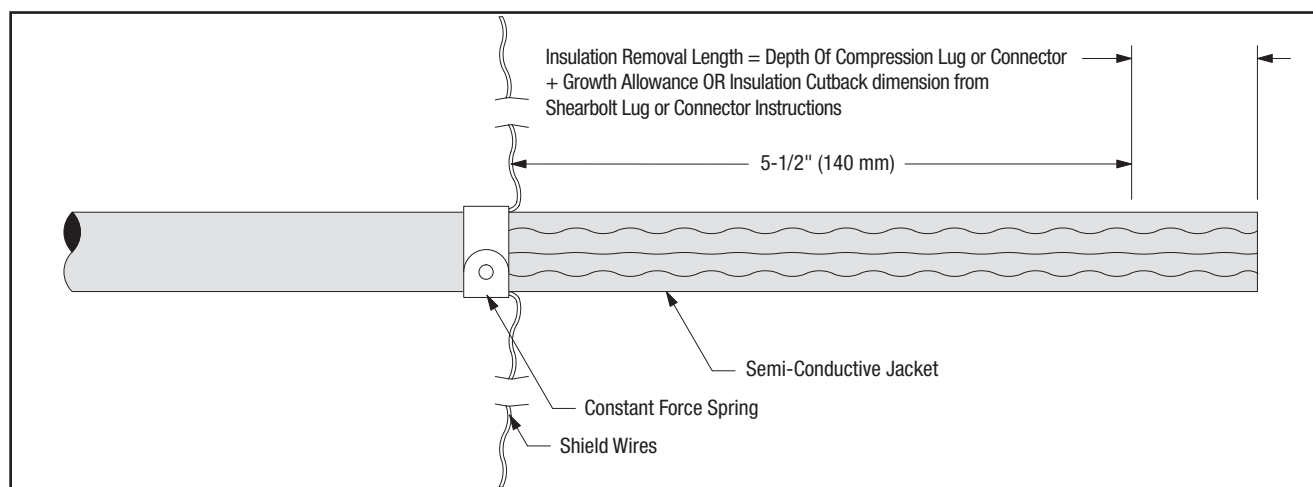

Figure 16
- 12.2 Prepare cable using dimensions shown in Figures 16, 17 and 18. **BE SURE TO ALLOW FOR DEPTH OF TERMINAL LUG OR CONNECTOR.**
12.4 Install constant force spring as shown in Figure 16. Pull shield wires through semi-conductive jacket to leading edge of constant force spring (Figure 16).
| Semi-Conductive Jacket Length                                                                                                                       | 5.5"                        | 140 mm                  | Value from Figure 16                                                                                                        |
| Semi-Conductive Jacket Length                                                                                                                                                           | 5.5"                        | 140 mm                  | Value from Figure 16                                                                                                                                                                                                                                    |